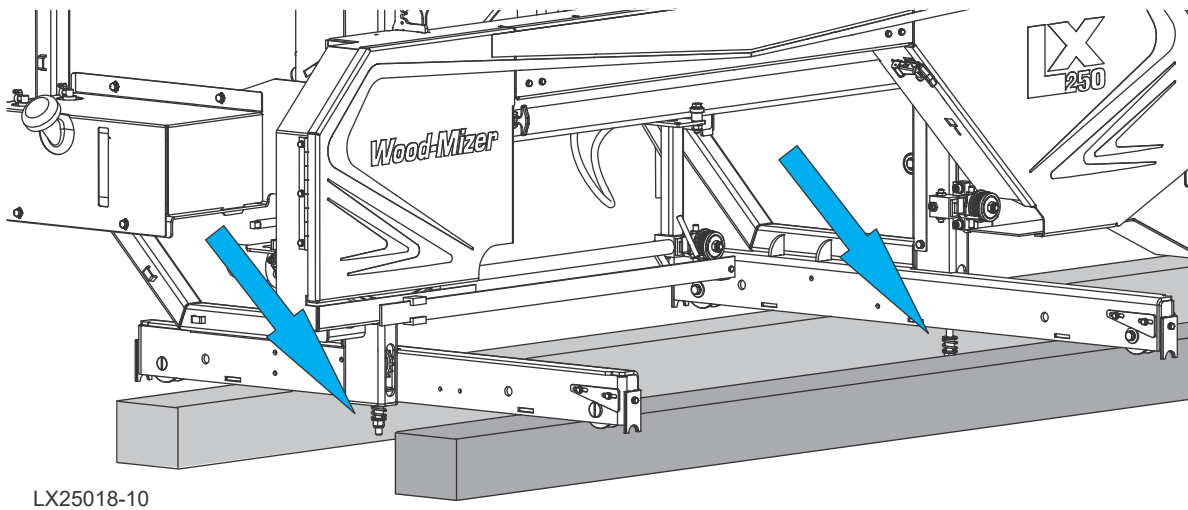

FIG. 2-2
4. Set the mast on the blocks called out in Section 2.1 Tools required. See Figure 2-2.
CAUTION! Use care to protect the adjustment screws at the bottom of the mast. See Figure 2-2.
See Figure 2-2.